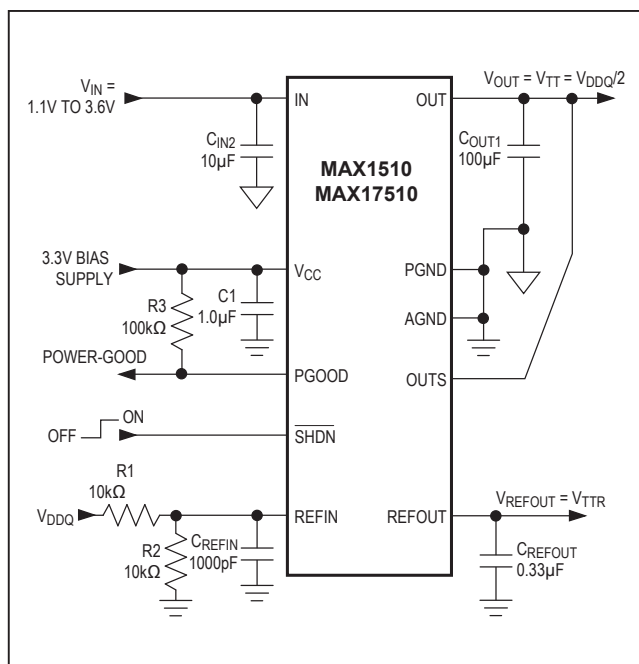

Figure 1. Standard Application Circuit
($V_{IN} = 1.8V$, $V_{CC} = 3.3V$, $V_{REFIN} = V_{OUTS} = 1.25V$, $\overline{SHDN} = V_{CC}$, circuit of Figure 1, $T_J = T_A = -40^\circ C$ to $+85^\circ C$ for MAX1510ETB, $T_J = T_A = -40^\circ C$ to $+125^\circ C$ for MAX17510ATB, unless otherwise noted. Typical values are at $T_A = +25^\circ C$.) (Note 1)
($V_{IN} = 1.8V$, $V_{CC} = 3.3V$, $V_{REFIN} = V_{OUTS} = 1.25V$, $\overline{SHDN} = V_{CC}$, circuit of Figure 1, $T_J = T_A = -40^{\circ}C$ to $+85^{\circ}C$ for MAX1510ETB, $T_J = T_A = -40^{\circ}C$ to $+125^{\circ}C$ for MAX17510ATB, unless otherwise noted. Typical values are at $T_A = +25^{\circ}C$.) (Note 1)
(Circuit of Figure 1. $T_A = +25^\circ\text{C}$, unless otherwise noted.)
The MAX1510/MAX17510 are low-voltage, low-dropout DDR termination linear regulators with an external bias supply input and a buffered reference output (see Figures 1 and 2). V_{CC} is powered by a 2.7V to 3.6V supply that is commonly available in laptop and desktop computers. The 3.3V bias supply drives the gate of the internal pass transistor, while a lower voltage input at the drain of the transistor (IN) is regulated to provide V_{OUT} . By using separate bias and power inputs, the MAX1510/MAX17510 can drive an n-channel high-side MOSFET and use a lower input voltage to provide better efficiency.
The MAX1510/MAX17510 regulate OUTS to the voltage set at REFIN, making the devices ideal for memory applications where the termination supply must track the supply voltage. Typically, REFIN is set by an external resistive voltage-divider connected to the memory supply (V_{DDQ}) as shown in Figure 1. The maximum output voltage of 1.5V is limited by the gate-drive voltage of the internal n-channel power transistor.